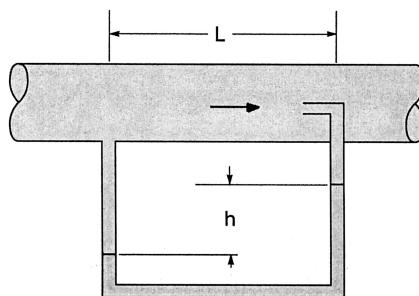

Figure 4
- 3 (a) A student conducted an experiment where a liquid of density 1200 kg/m^3 and dynamic viscosity 0.1 Ns/m^2 is passed through a horizontal pipe of diameter 0.1 m as shown in Figure 4. Given that the flow is laminar and the centerline velocity is 1 m/s , determine the length L if the manometer height is 0.2 m . The density of the manometer fluid is 1600 kg/m^3 . Comment on the results obtained. If the flow is inviscid and the volume flow rate remains constant, do you expect the length L and the manometer height h to be different? Explain your answers. (You are not required to compute L and h).